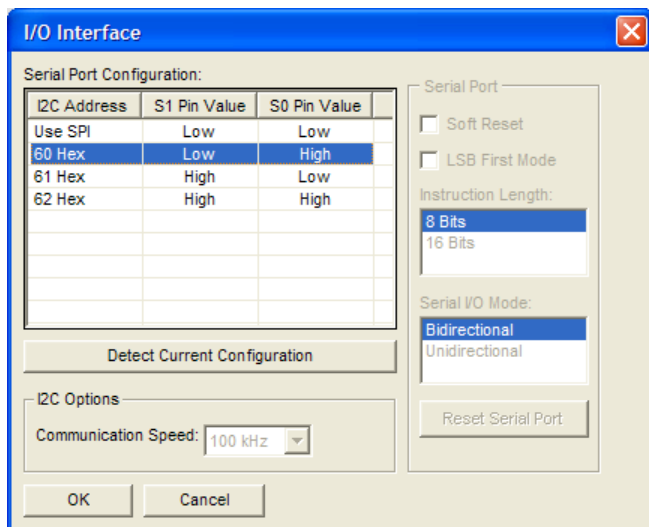

Figure 27. Evaluation Software Serial Port Configuration
5. On the evaluation software, select **Configure Serial Port** from the I/O menu. This window is shown in Figure 27.